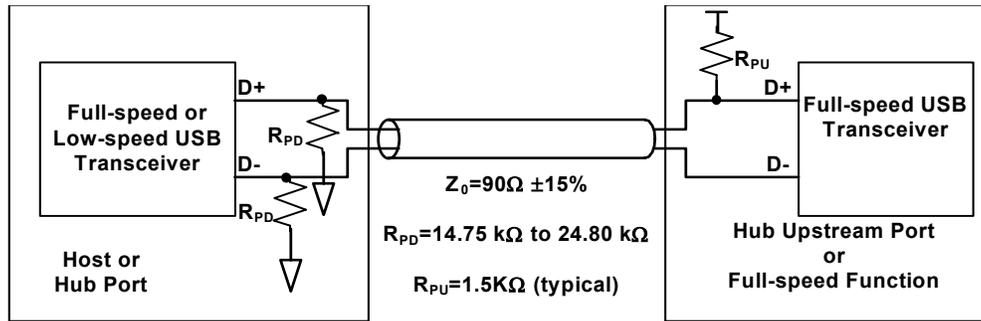
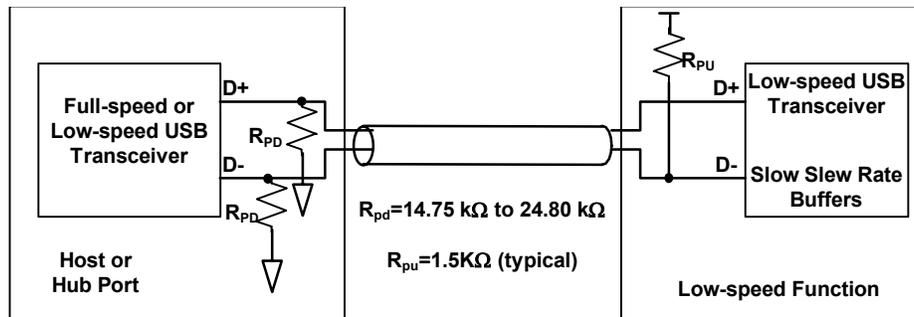

Figure 7-20. Full-speed Device Cable and Resistor Connections
Figure 7-21. Low-speed Device Cable and Resistor Connections
The USB is terminated at the hub and function ends as shown in Figure 7-20 and Figure 7-21. Full-speed and low-speed devices are differentiated by the position of the pull-up resistor on the downstream end of the cable:
- Full-speed devices are terminated as shown in Figure 7-20 with the pull-up resistor on the D+ line.
- Low-speed devices are terminated as shown in Figure 7-21 with the pull-up resistor on the D- line.